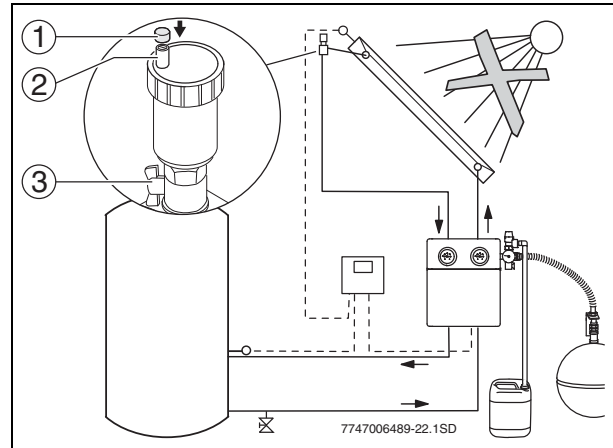

Fig. 31 Opening the air vent
- Use a hose (1) to connect the fill & drain valve on the safety assembly to the municipal water supply.
- To drain the water away, connect a hose (2) to the fill & drain valve on the flow regulator.
- Close the right-hand ball valve (2) on the solar pump station and the ball valve on the air vent (→ Fig. 31, item 3).
- Close the fill & drain valves (3) in the solar pump station.